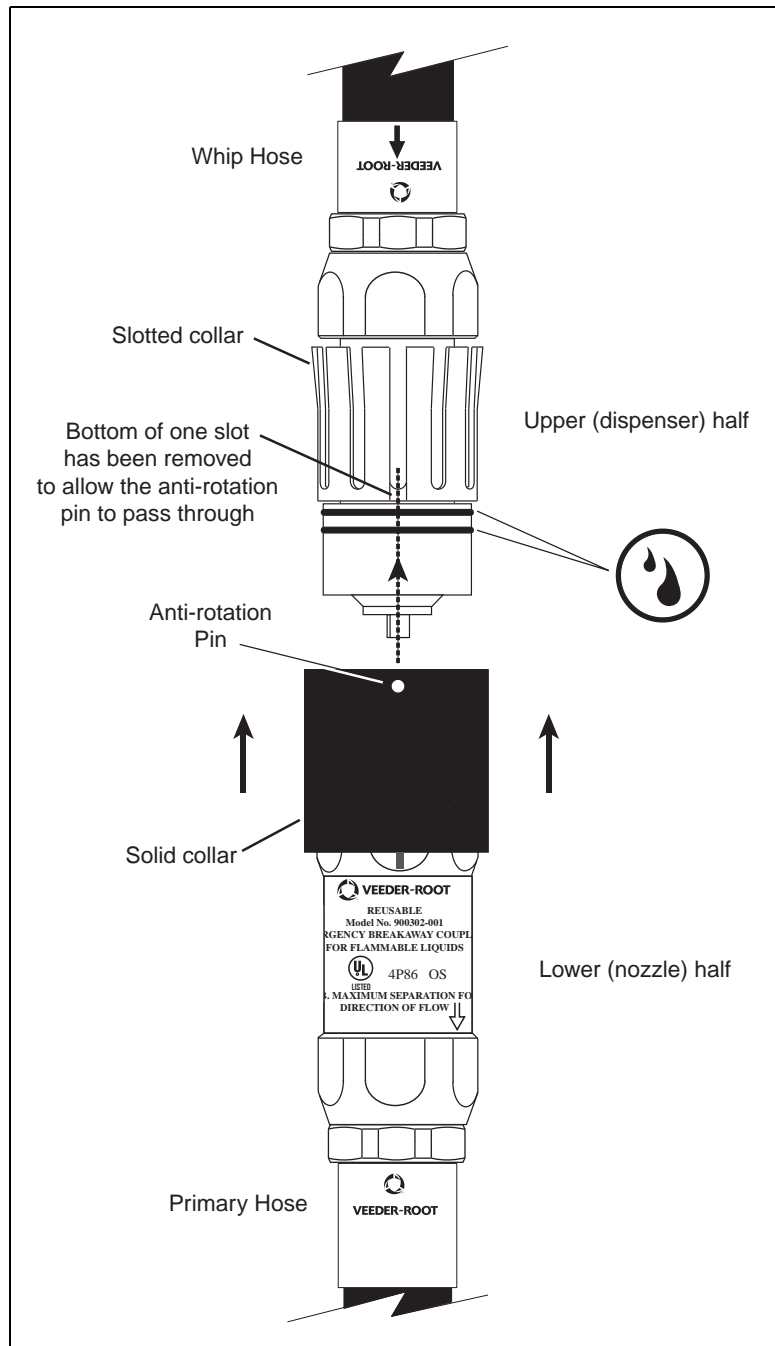

Figure 7. Connecting the Reusable Breakaway (P/N 900302-001)
3. Prior to reassembling, ensure that the mating parts are clean. Lubricate the two o-rings on the upper half of the breakaway (the end connecting to the whip hose) with mineral oil or a suitable lubricant (see Figure 7).